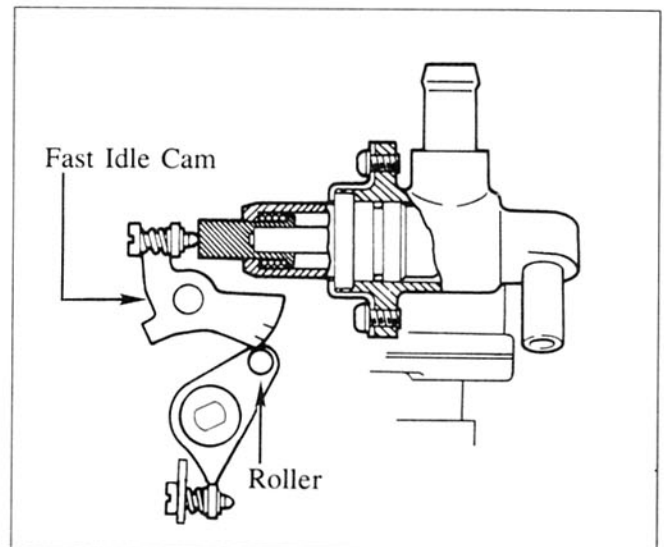

Figure 1
1. Warm up the engine to the normal operating temperature. Confirm that the fast idle cam separates from the roller as shown. If the fast idle cam is contacting the roller, the engine is not fully warmed. (Figure 1)